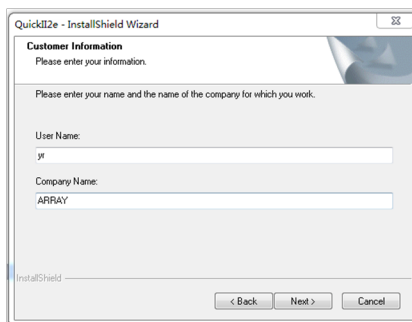

Fig 1.3
- If you click NEXT to enter the next step of installation, the User Name and Computer Name will be displayed, as shown in Fig. 1.3, and you can modify them.
- Click “back”, return back the above step in fig. 1.3.